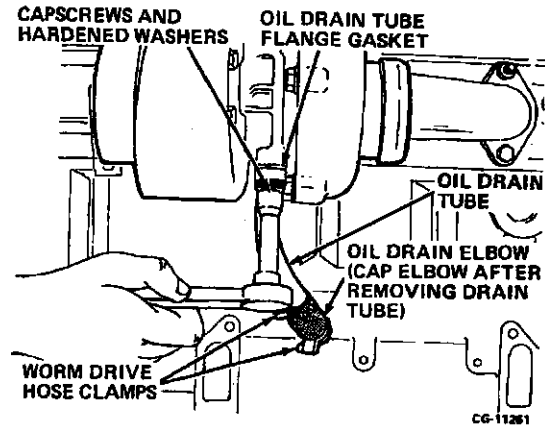

Figure 2.8. Removing Turbocharger Oil Drain Tube
3. Remove the turbo oil drain tube as follows: (Refer to Figure 2.8.)